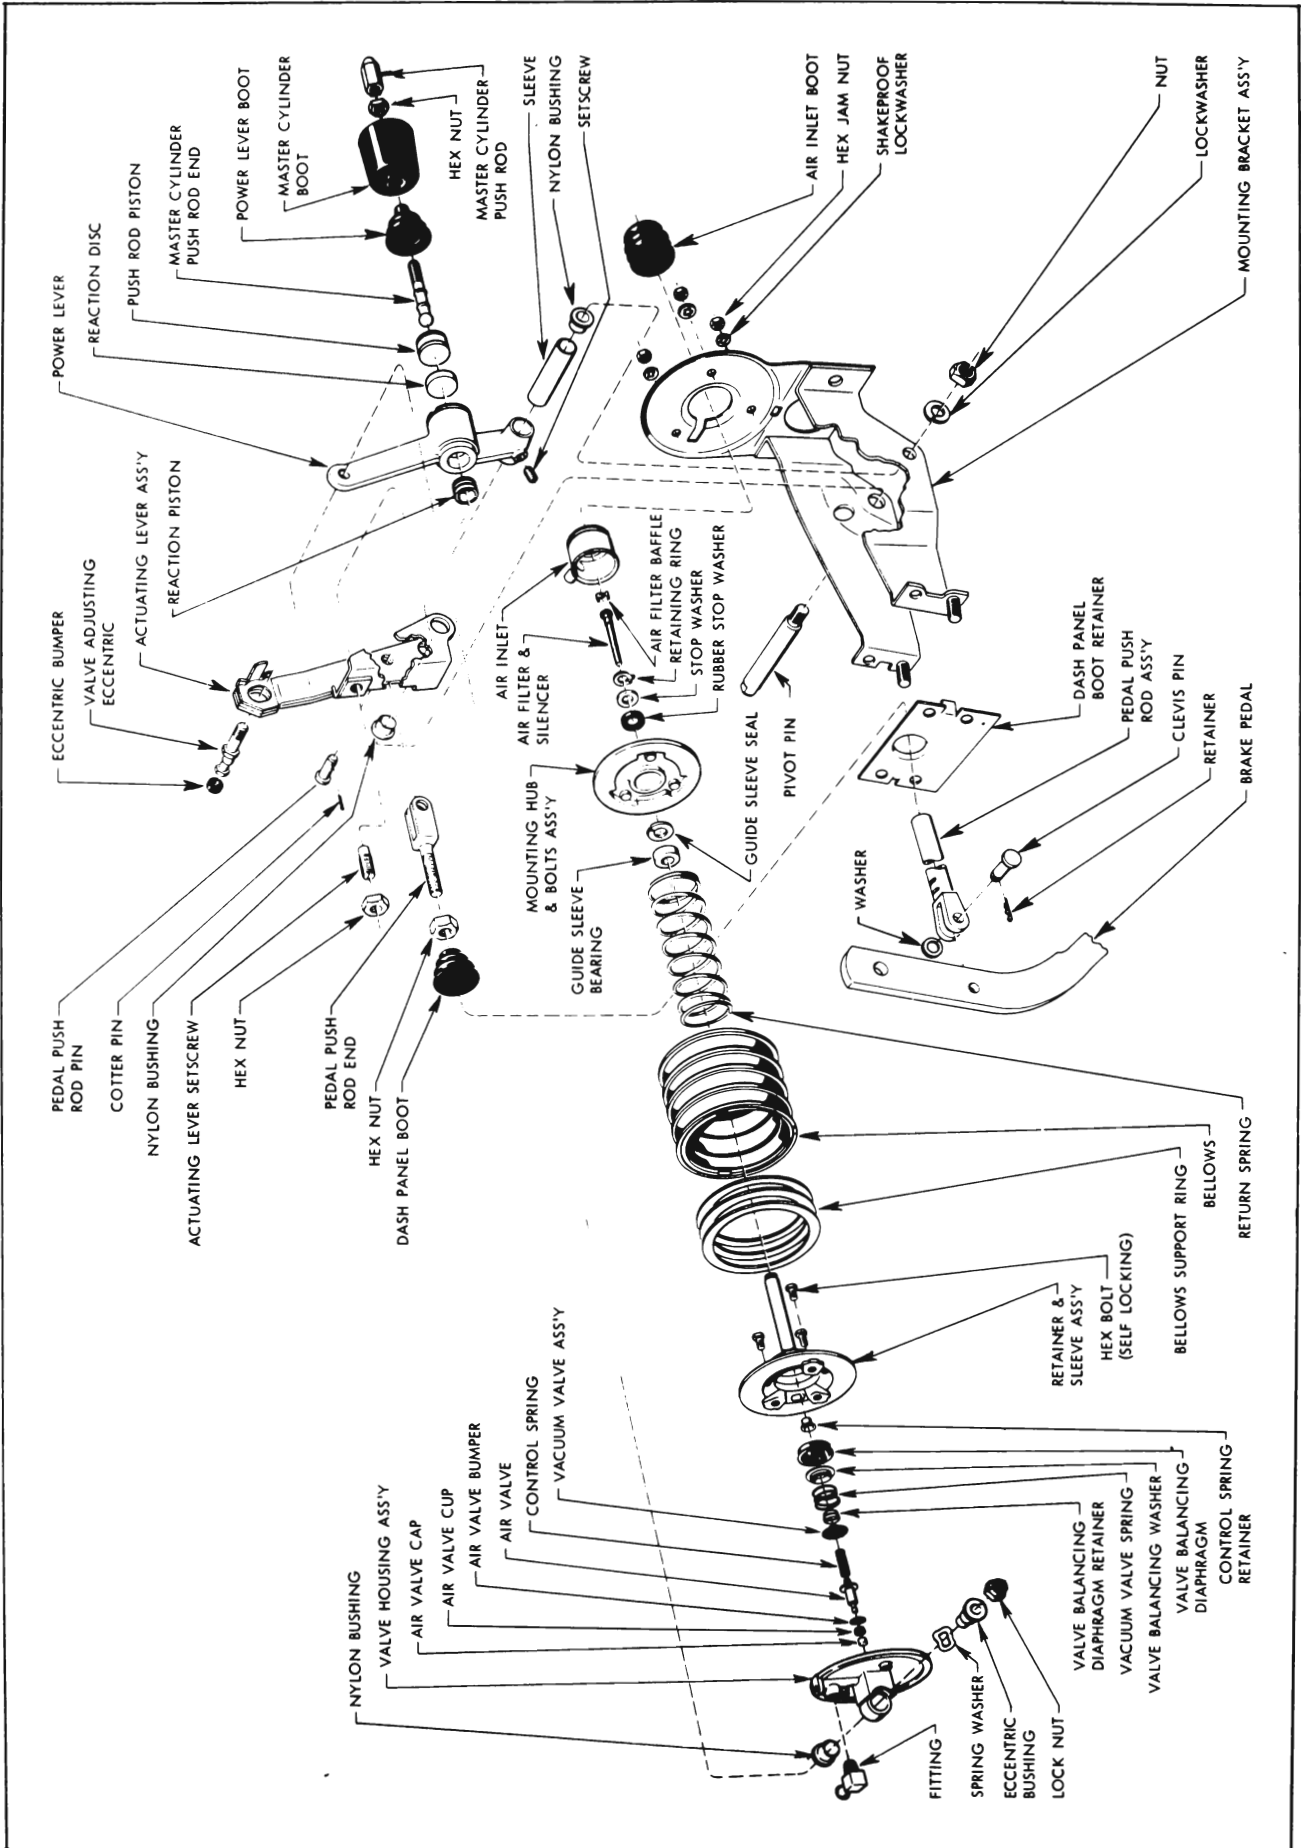

Figure 9-20—Power Brake - Exploded View
5. Install nylon bushing in valve housing, and lubricate with lubriplate. Refer to exploded view, Figure 9-20.